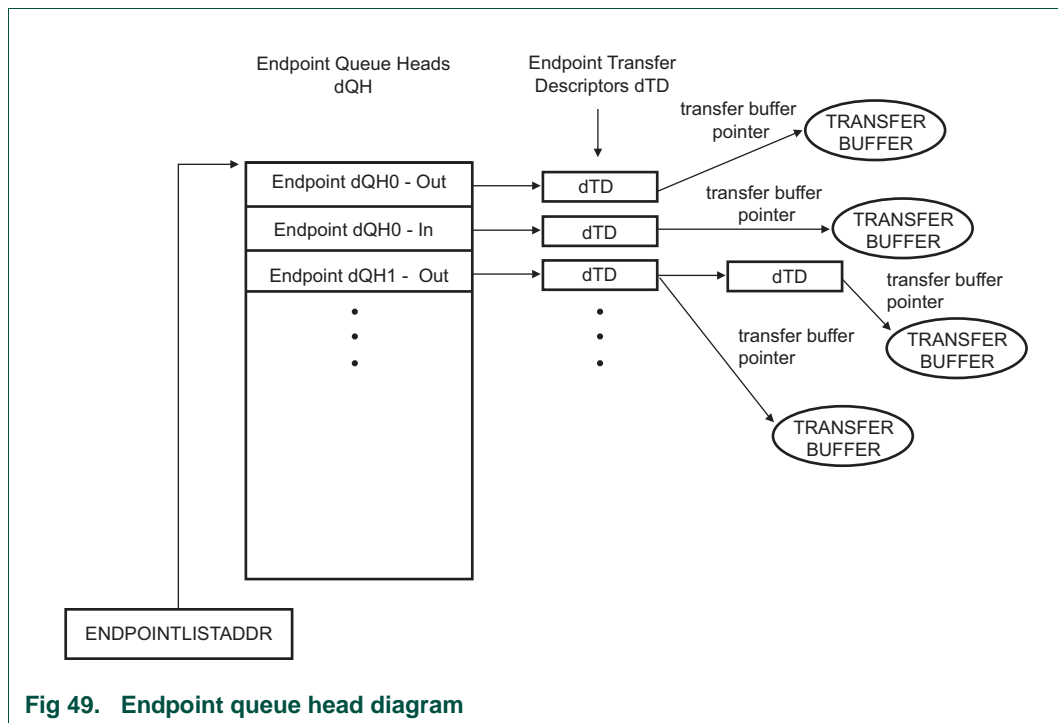

Fig 49. Endpoint queue head diagram
The device queue head (dQH) points to the linked list of transfer tasks, each depicted by the device Transfer Descriptor (dTD). An area of memory pointed to by `ENDPOINTLISTADDR` contains a group of all dQH's in a sequential list as shown in Figure 49. The even elements in the list of dQH's are used for receive endpoints (OUT) and the odd elements are used for transmit endpoints (IN). Device transfer descriptors are linked head to tail starting at the queue head and ending at a terminate bit. Once the dTD has been retired, it will no longer be part of the linked list from the queue head. Therefore, software is required to track all transfer descriptors since pointers will no longer exist within the queue head once the dTD is retired (see Section 21.10.11.1).